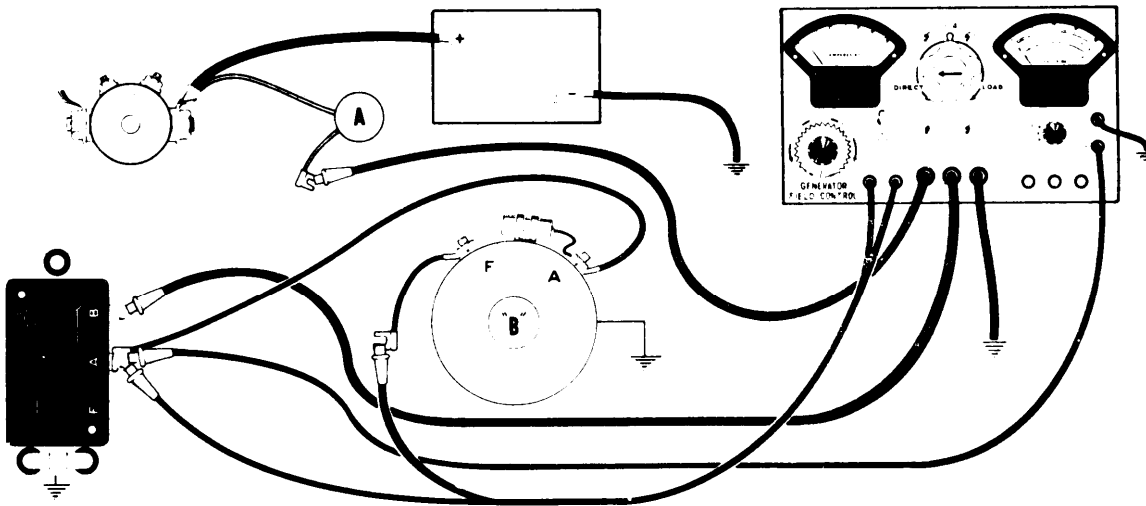

Figure 4. Internally Grounded Generator (B Circuit), Test Connections
The internally grounded field type has one wire of the field circuit grounded to the housing inside the generator. One of the armature terminals of the generator is always internally grounded to the housing. The internally grounded field types manufactured by Auto-Lite and Delco-Remy are generally used on the larger trucks. (Auto-Lite Heavy Duty, Delco-Remy, Lucas and all standard and heavy duty systems used on Ford products. Lucas systems are found on most British cars). See Figure 4 for test connections for an internally grounded generator (B Circuit).
- c. If the D.C. Ammeter indicates, the generator is an internally grounded type (B Circuit), and the diagram of Figure 4 applies.